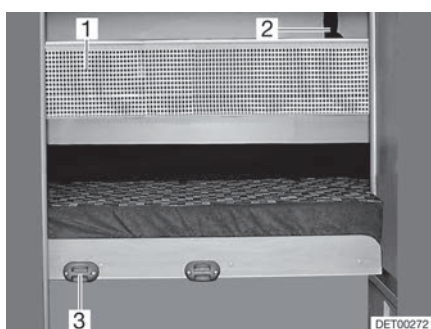

Fig. 65 Safety net
- Attach the access ladder with the rails to the holder (Fig. 65,3) on the panel.
Safety net The safety net (Fig. 65,1) is stored as standard between the mattress and slatted frame. Do not use the safety net until the person is already in bed.
Setting up: ■ Fasten the retaining straps (Fig. 65,2) to the holders on the ceiling.